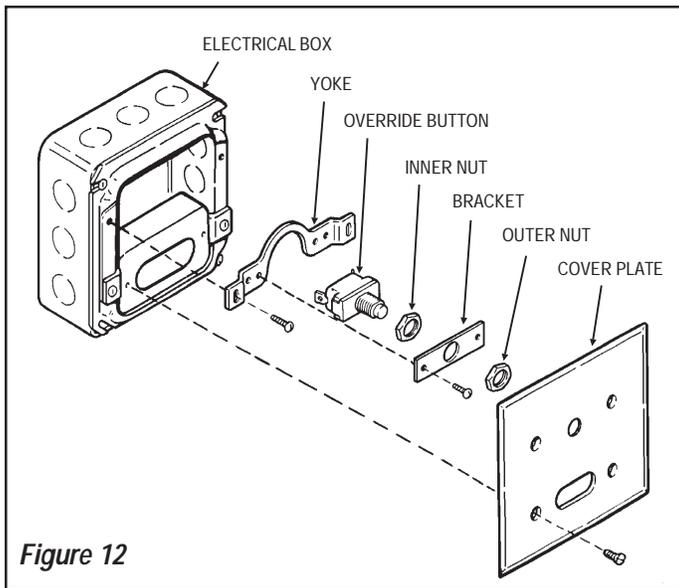

Figure 12
Step 8 — Mount Yoke and Override Button (Figure 12)
Step 9 — Install Sensor Cover Plate (Figure 12)